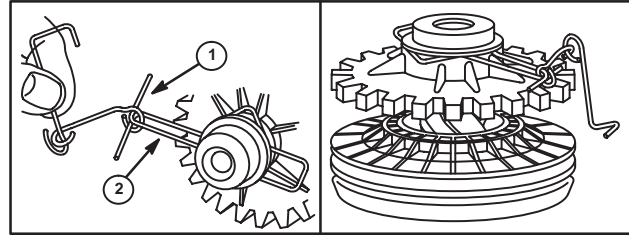

Fig. 56
- Assemble end of link loop (1) toward gear on link assembly (2). Clean all dirty or oily parts and check link for proper friction. Link should move gear to both extremes of its travel. If not, replace link assembly, Fig. 56.